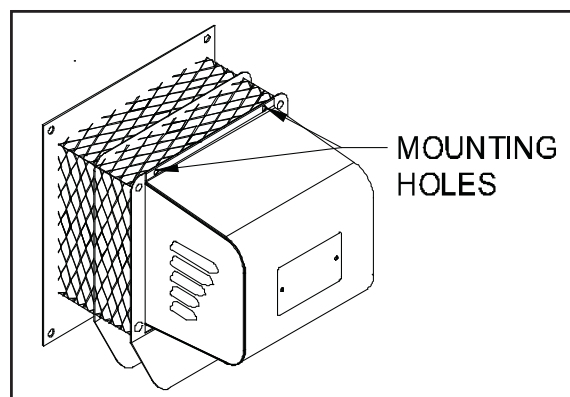

Figure 1
1. Remove the motor enclosure cover by loosening the four screws. (See Figure 1)